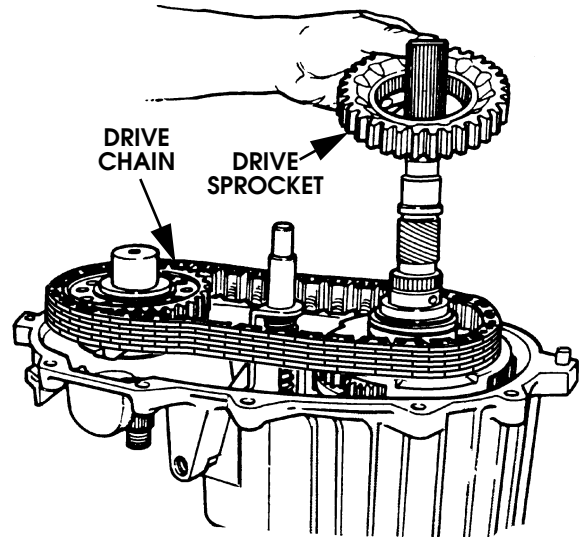

Figure 5-92: Drive Sprocket Removal
12. Remove drive sprocket (Figure 5-92).